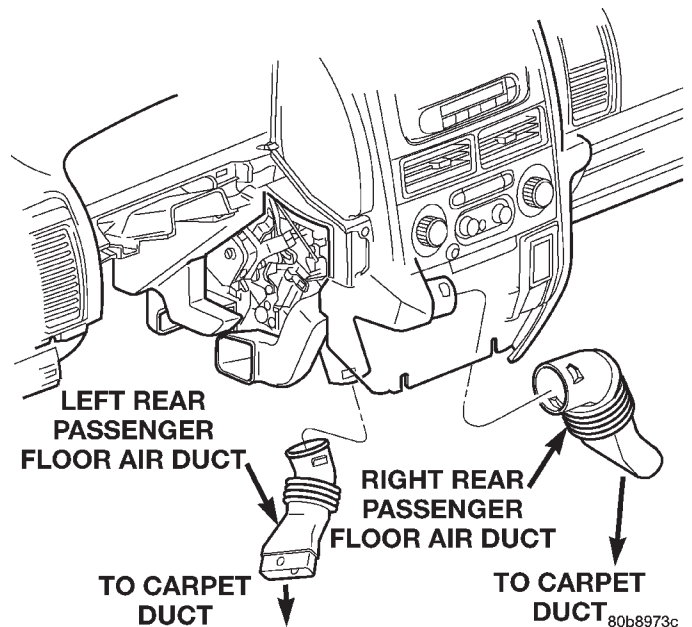

Fig. 43 Rear Floor Ducts
(1) To remove the rear floor ducts from the vehicle, remove the knee blocker panels for access, and pull carpeting back.
(2) Pull the floor ducts from the HVAC housing (Fig. 43).